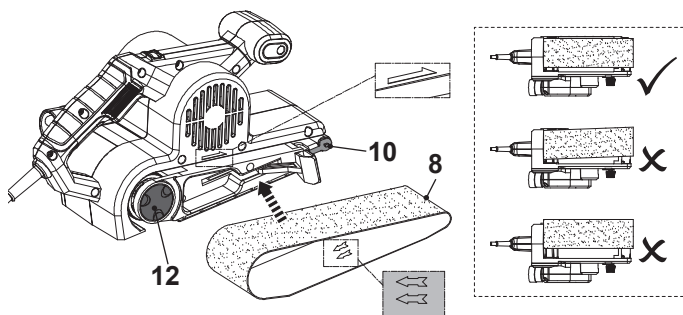

Fig. 2
2. Pay attention to the rotational direction indicated on the inside of the sanding belt (8). Align the sanding belt (8) in accordance with the direction indicated on the product housing and slide it over the front roller (10) and the drive roller (12) (Fig. 2).